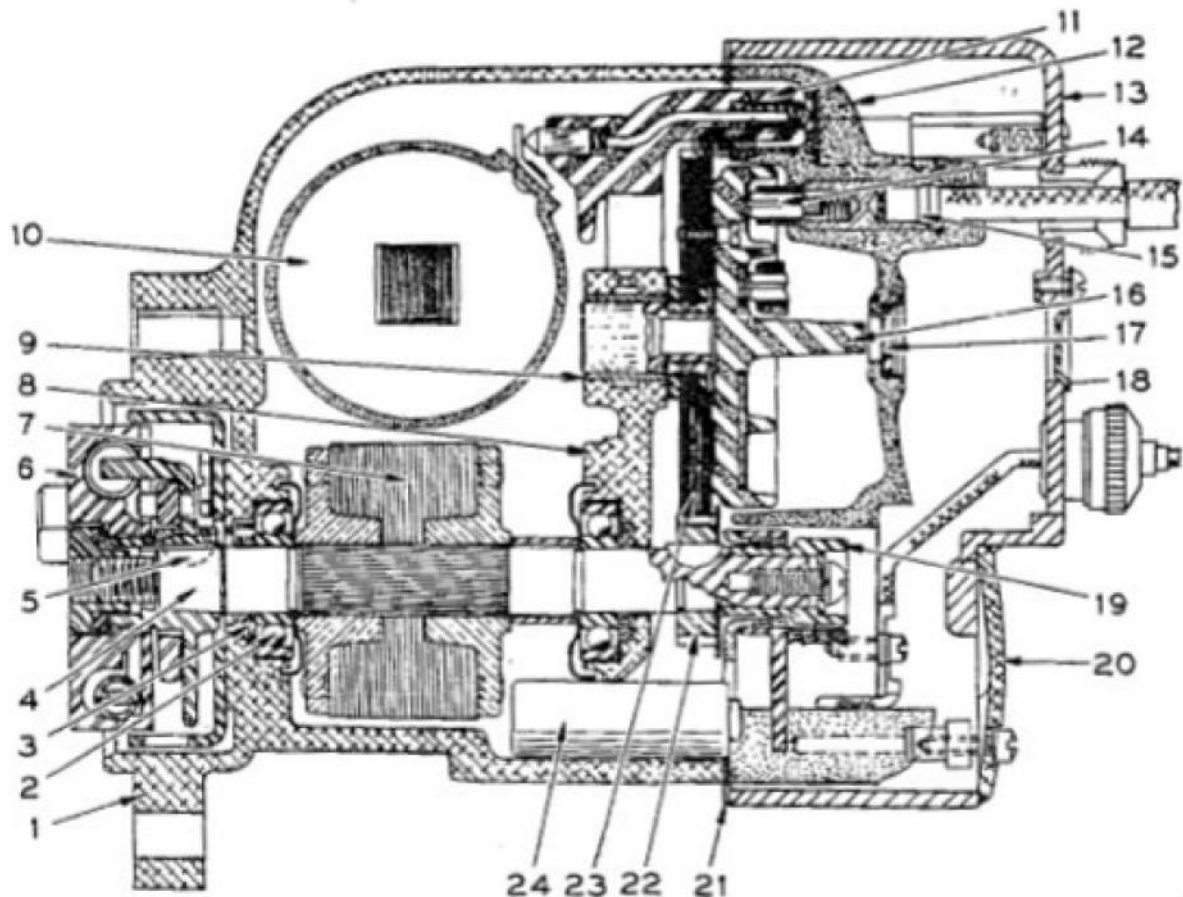

Fig. 27. Longitudinal Section through Magneto
The magneto, which produces an ignition spark only at certain definite points in the rotation of the magnet rotor (7) (see Figs. 27 and 28), must be connected to the engine in such a manner that the spark is available always at the instant when required in the cylinder, i.e., about top dead center of compression stroke, with magneto set in retard position. The proper operating results are obtained by timing the engine and the magneto as follows (see Figs. 27 and 28). It is unnecessary to remove the distributor plate for this purpose.
Remove the cap (20) from radio shield cover (13) (refer to Figs. 27 and 28). To prevent the engagement of coupling weights, rotate the impulse coupling (6) in the opposite direction to which magneto is to be driven, passing through the "contacts open" point to a position slightly beyond the point where